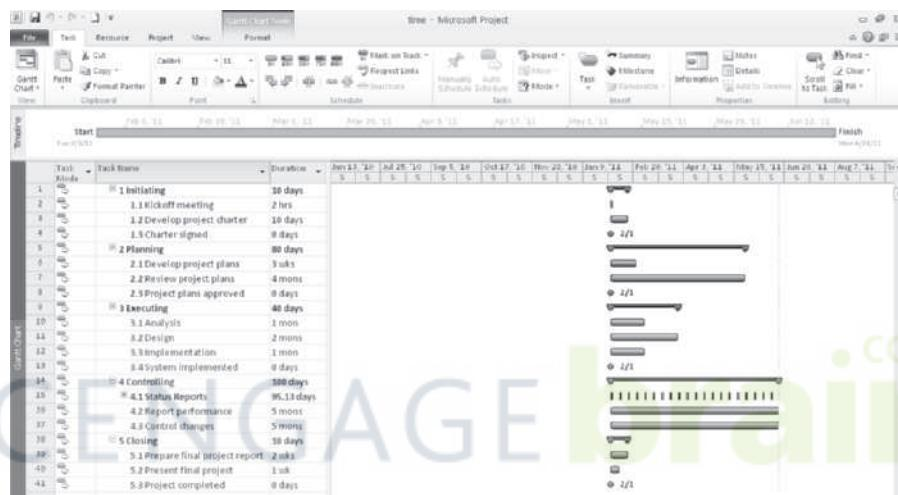

FIGURE A-24 Time file with durations entered
4. Save your file and name it. Click the **File** tab, and then click **Save As**. Enter **time** as the filename, and then save the file to the desired location on your computer or network. Your file should resemble Figure A-24. Remember that you can use the Zoom Slider to adjust the timescale as needed. Notice that all of the tasks still begin on February 1. This will change in the next section when we add task dependencies. Keep this file open for the next set of steps.